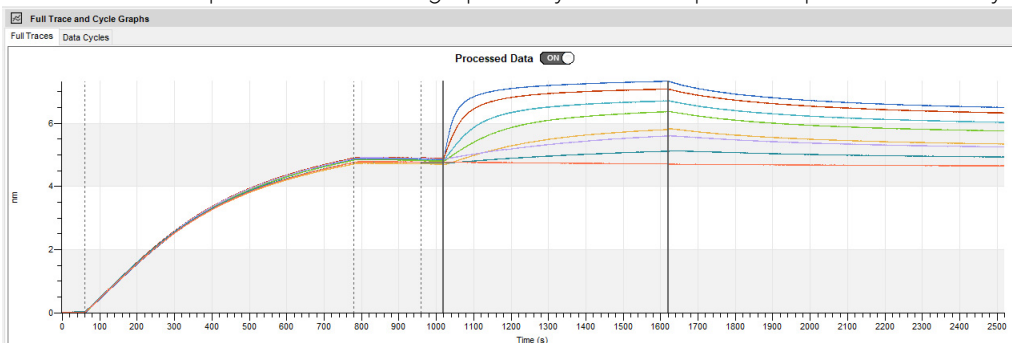

Figure 4-75: Selecting a Kinetic Step for Quantitation
2. Select the step in the Full Traces graph that you want to perform quantitation analysis on (Figure 4-75).
- If only one step in the assay is being quantitated as shown in Figure 4-75, select **Quantitate Selected Step**.